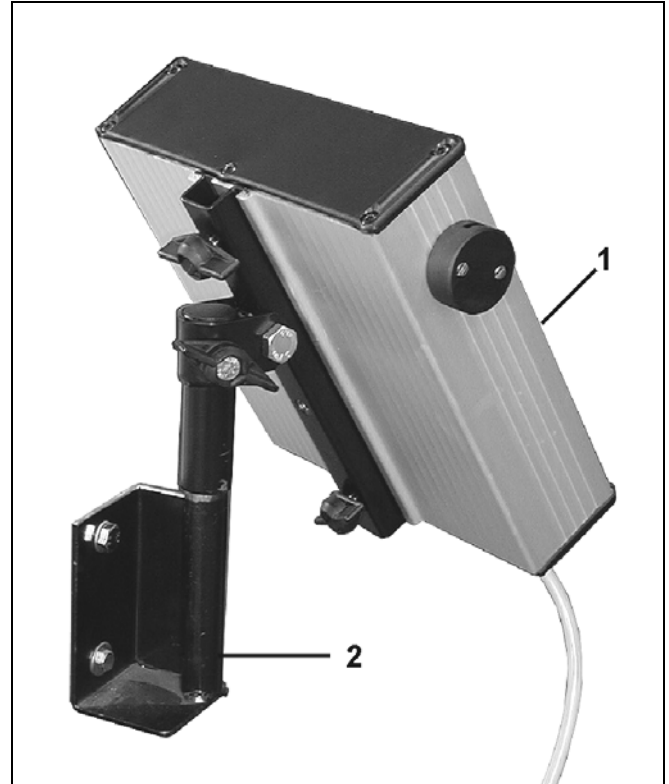

Fig. 1
Fit basic console (Fig. 1/2) (special option) within reach and sight to the right hand of the operator; it must be free of vibrations and electrically conductive inside the tractor cab. The distance from a radio transmitter and an antenna should at least be 1 m.
The **retainer** (Fig. 1/1) is pushed on to the tube of the console.
- on the left hand side (Fig. 4/3) the display (figures 1, 2, 3 etc.) changes automatically after 5 seconds. The number of the actually monitored sowing unit is shown.